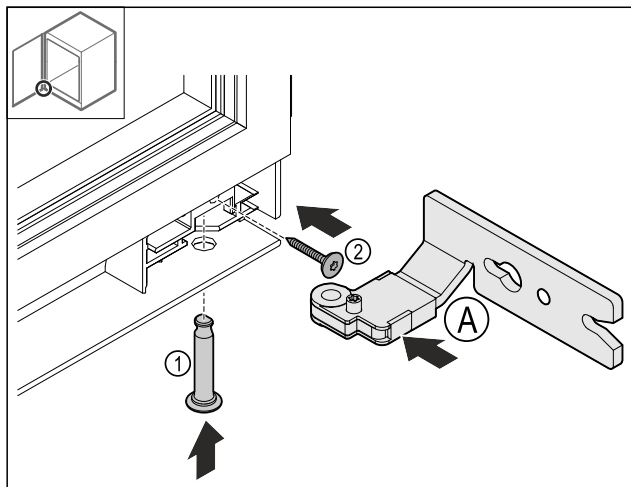

Fig. 27
- ▶ Insert the bottom hinge Fig. 27 (A).
- ▶ Insert the pin Fig. 27 (1) and hold it.
- ▶ Tighten the screw Fig. 27 (2).